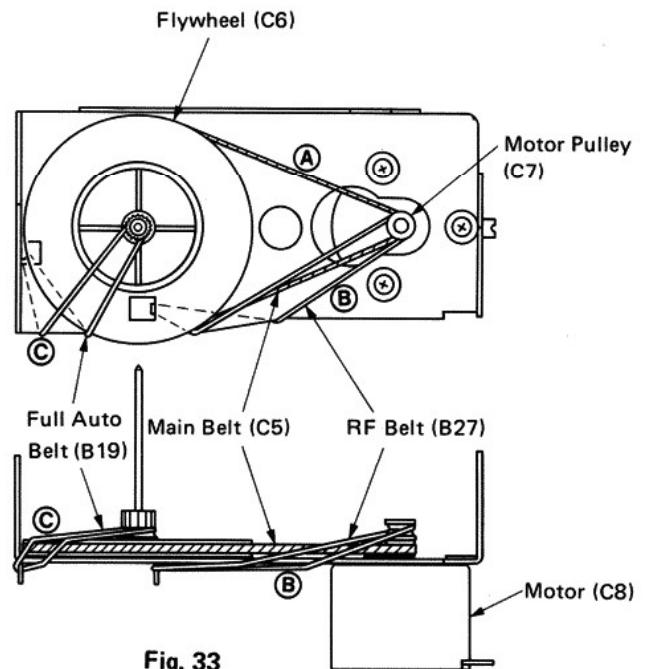

Fig. 33
- 2 Hang the main belt (C5) on the flywheel (C6) and the motor pulley (C7). ----- ①
- 3 Hang the RF belt (B27) on the raised hook part of the bracket and the motor pulley (C7). ----- ②
- 4 Hang the full-auto belt (B19) on the raised hook part of the bracket and flywheel. ----- ③
- 7 Hang the RF belt (B27) on the RF clutch assembly (B26) and the full-auto belt (B19) on the pulley (B18). (Fig. 33)